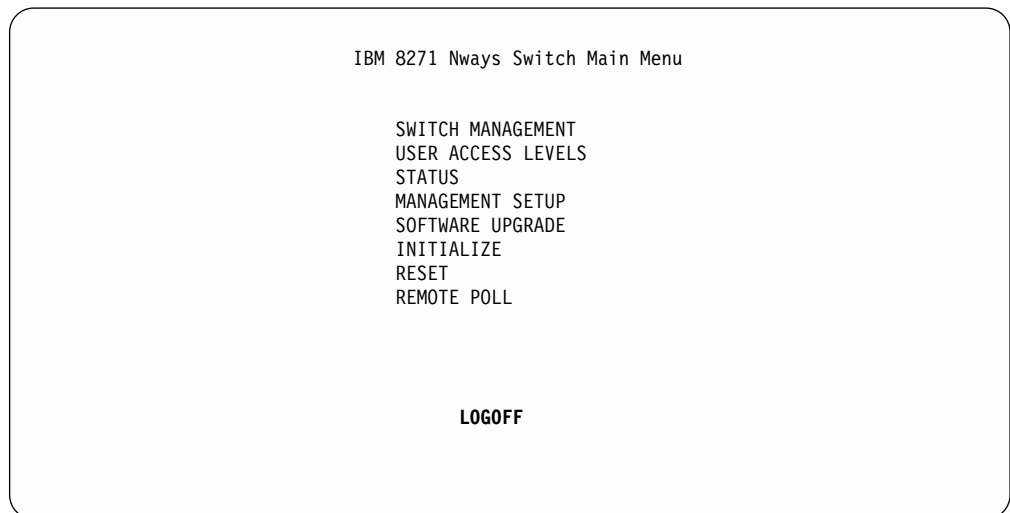

Figure 156. Logging Off the Nways Switch Main Menu
21. With the down arrow key, move the cursor to **OK**. Press **ENTER**. Figure 156 on page 409 Displays.
22. With the down arrow key, move the cursor to **CANCEL**. Press **ENTER** . Figure 156 displays.